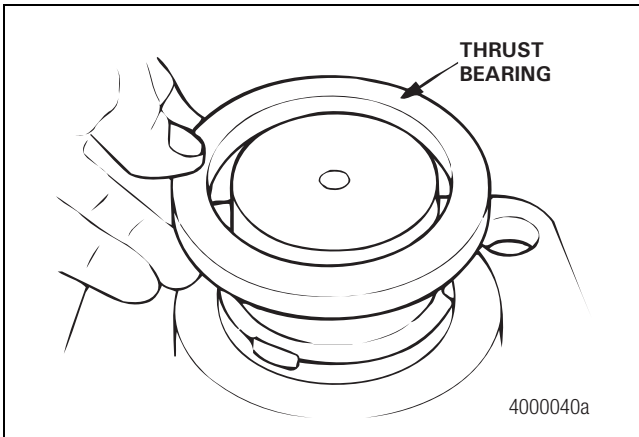

Figure 4.26
2. Remove the lower knuckle cap and inspect the thrust bearing for wear or damage. Replace a worn or damaged thrust bearing at reassembly. Figure 4.26.